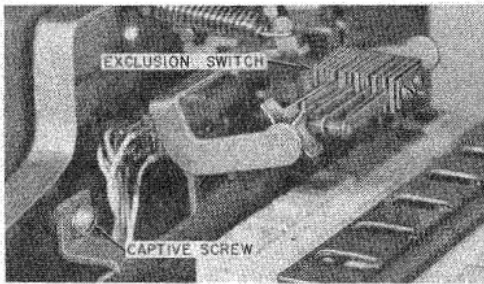

Fig. 10—Exclusion Switch Installed and Hinged Chassis Mounting Screws (Early Version)
**3.02** The telephone set should be mounted before installing the modular items. To expose the mounting holes, the hinged chassis assembly must be lowered by loosening the captive screws (Fig. 10) holding the top of the chassis. For ease of installation the chassis assembly can be removed from the base pan by springing the hinged brackets sufficiently to clear the pins. The base pan can then be mounted directly to the wall using the keyhole slots, or holes provided for mounting over an electrical outlet box.